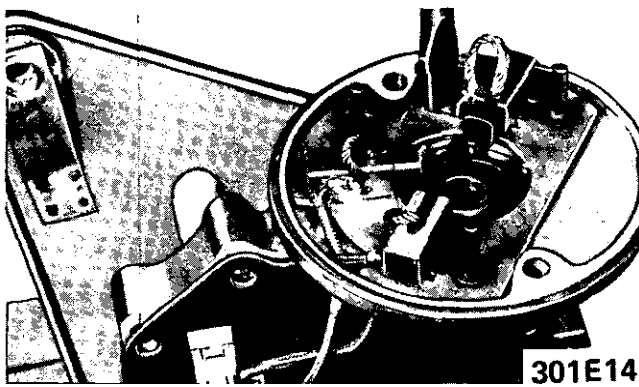

Figure 1E-14 Remove Negative Brush Retaining Screw
4. Install transmission housing cover. See Figure 1E-16.